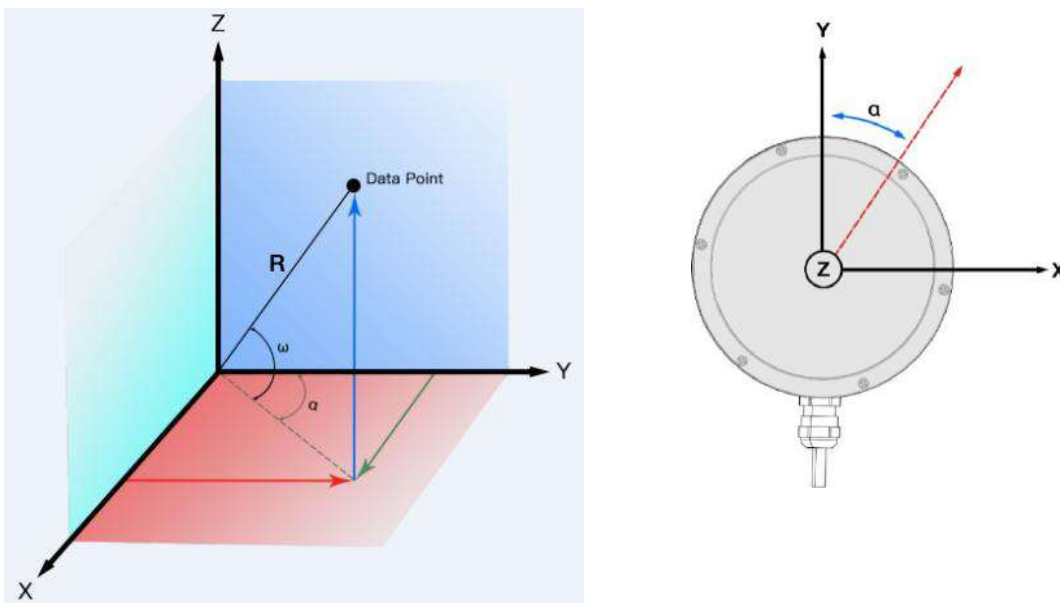

Figure 10: Coordinate system mapping between polar system and XYZ system.
In data packet including the measured azimuth and distance, in order to calculating the point cloud, the coordinate in polar coordinate system should be transferred to the 3D XYZ coordinate in Cartesian Coordinate System, as shown in figure 10. The function of how to transfer the information is as shown below:
*The ROS-X axis is co-axis with the Y-axis and with same direction as Figure 10.*
*The ROS-Y axis is co-axis with the X-axis but the positive direction is reverse as Figure 10.*